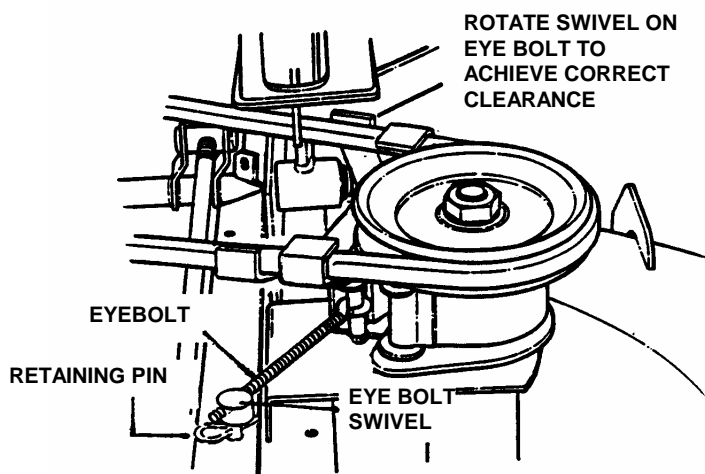

FIGURE 4.3
3. Remove retaining pin from eyebolt swivel. Lift swivel out of deck rail. See Figure 4.3. If dimension is greater than 3-1/4", turn eyebolt swivel CLOCKWISE to increase brake tension and reduce clearance between Blade Lever and Latch Plate. If dimension is less than 3", turn eyebolt swivel COUNTERCLOCKWISE to decrease brake tension. See Figure 4.3.